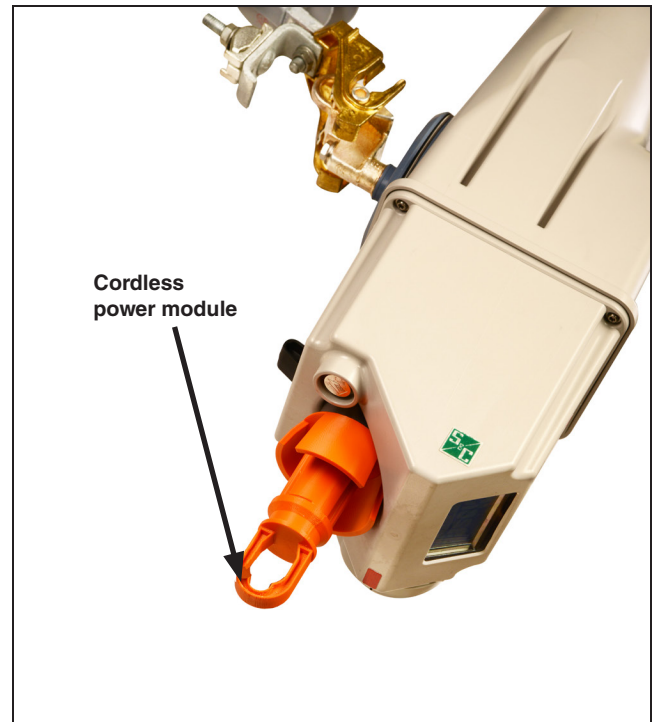

Figure 9. The cordless power module attached to the base of a TripSaver II recloser.
Connect the cordless power module to the base of the TripSaver II recloser, as shown in Figure 9. For full instructions on using the cordless power module, see S&C Instruction Sheet 461-510.
- STEP 1.** *If power to the TripSaver II recloser is unavailable:* With the TripSaver II recloser mounted to the utility pole, connect the cordless power module to the base of the TripSaver II recloser, as shown in Figure 9 on page 11. For full instructions on using the cordless power module, see S&C Instruction Sheet 461-510.